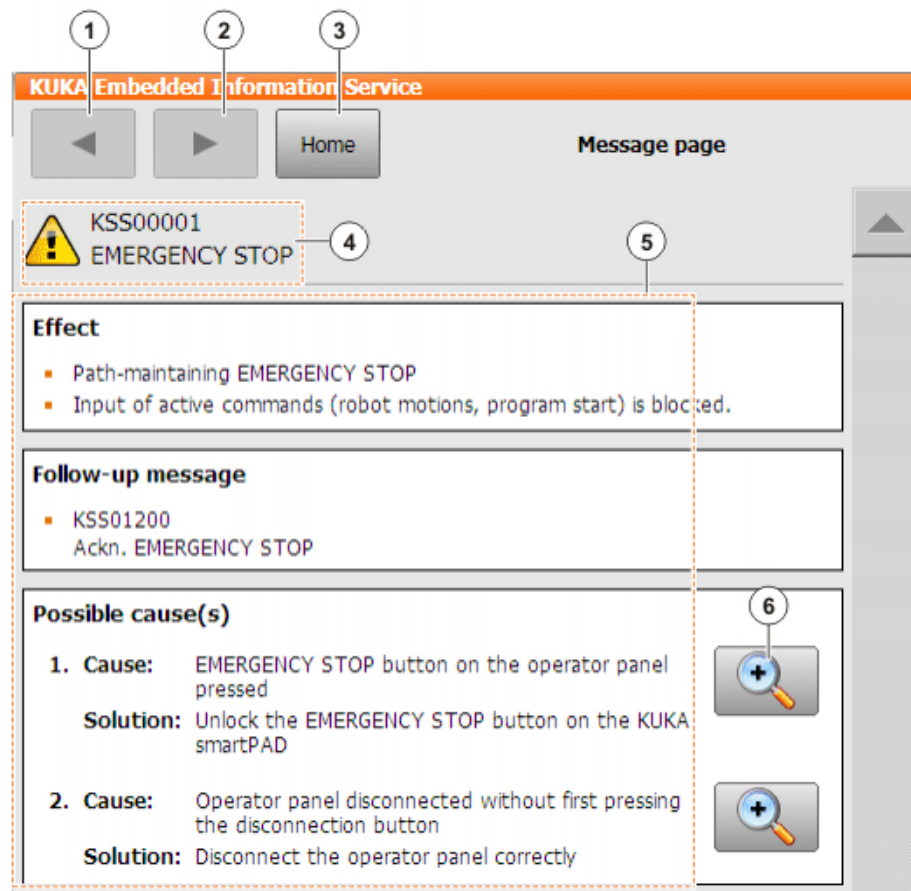

Fig. 4-10: Message page – Example from the KUKA System Software
1. Touch the button containing the question mark. The **KUKA Embedded Information Service – Message page** window is opened. The window contains a variety of information about the message. (>>> Fig. 4-10)
(>>> Fig. 4-10)